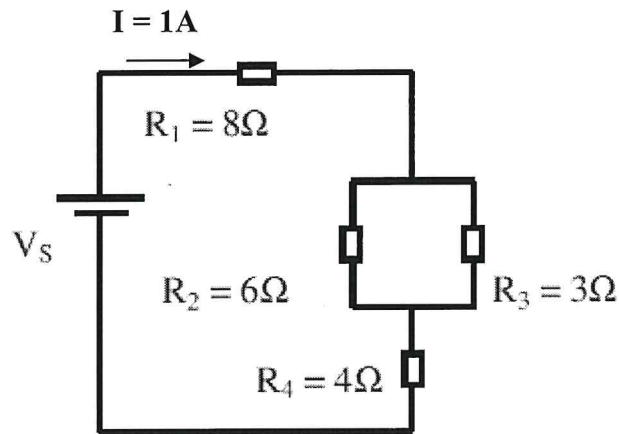

Figure 1(c) / Rajah 1 (c)
- c) Referring to combination circuit in **Figure 1(c)** :